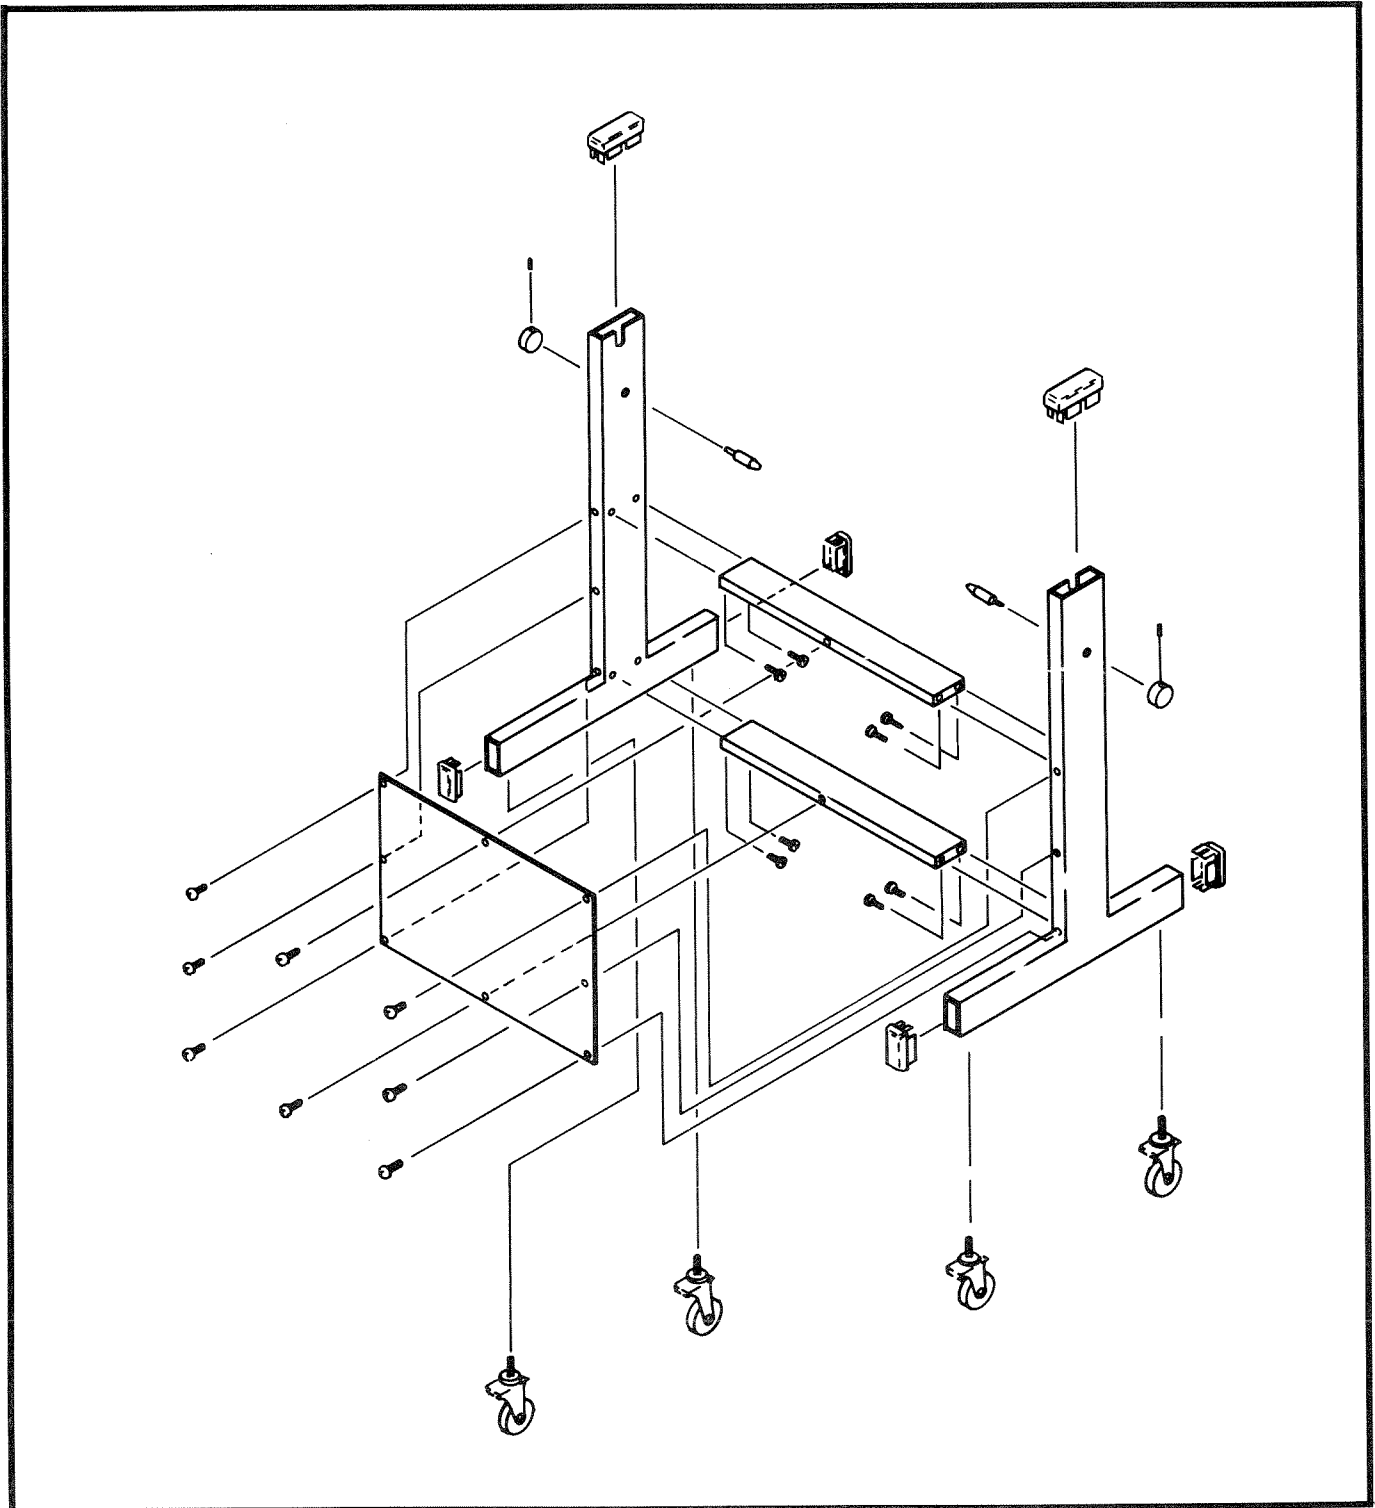

Figure 2-3. Exploded View of SU-14 Stand
**STEP 2** Assemble the SU-14 stand according to Figure 2-3. First install the 2 cross braces with the 2 screws into each of the vertical support members to attach each of the cross braces. Make sure that the cross braces are installed with the tapped screw hole facing forward.